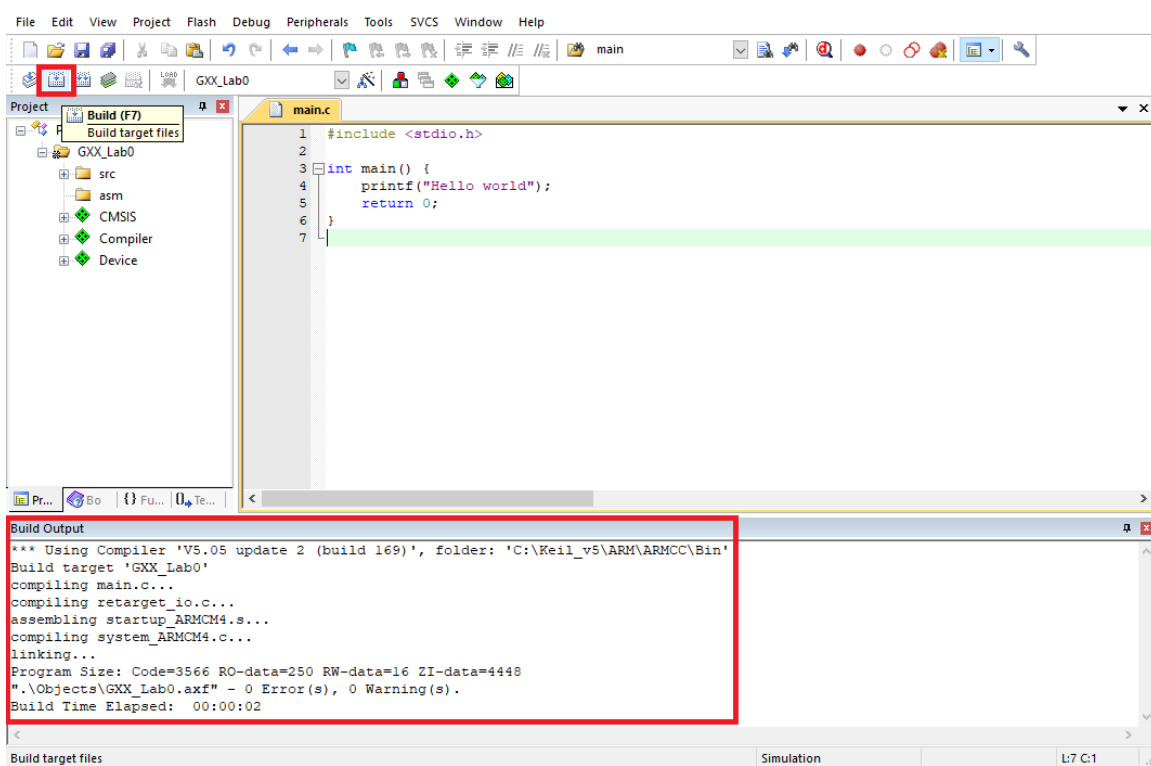

Figure 15: Building the project.
3. We will now build the project using the 'build' button or the keyboard shortcut F7, as shown in Figure 15. If everything goes well, the build output window will match what is seen in the figure.